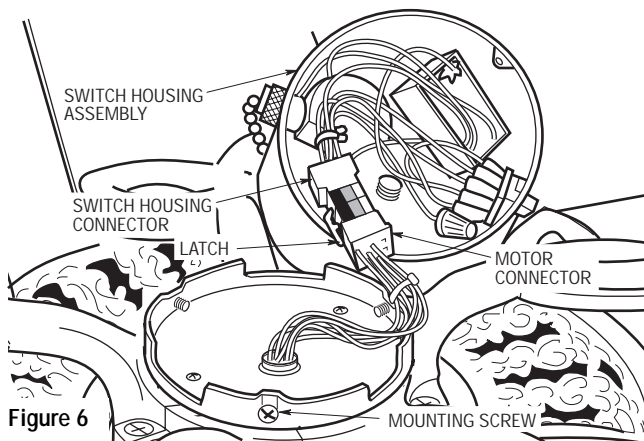

Figure 6
- 11. Engage the connector of the switch housing assembly with the motor connector (Figure 6). The two connectors are keyed and color-coded and must be mated correctly (color-to-color) before they can be engaged. Make sure the connector latch closes properly.
- 12. Remove the three mounting screws from the switch housing plate (Figure 6). Position the switch housing assembly on the switch housing plate and secure using the three mounting screws (Figure 7).